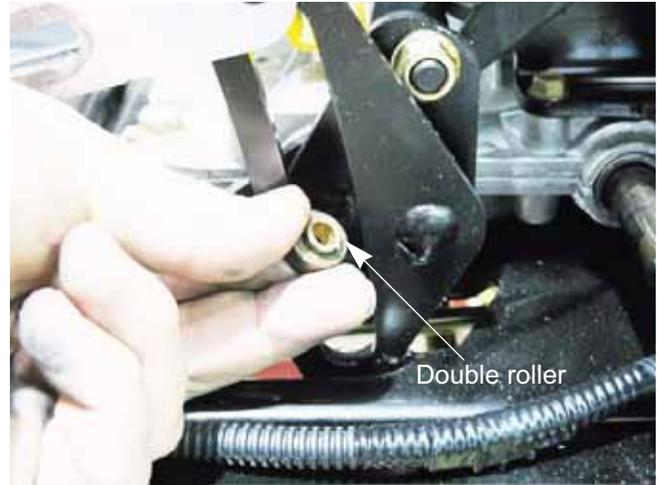

Figure 6A.3
3. Loosen the return to neutral bolt using a 9/16" wrench and a 1/4" hex key. See Figure 6A.4.